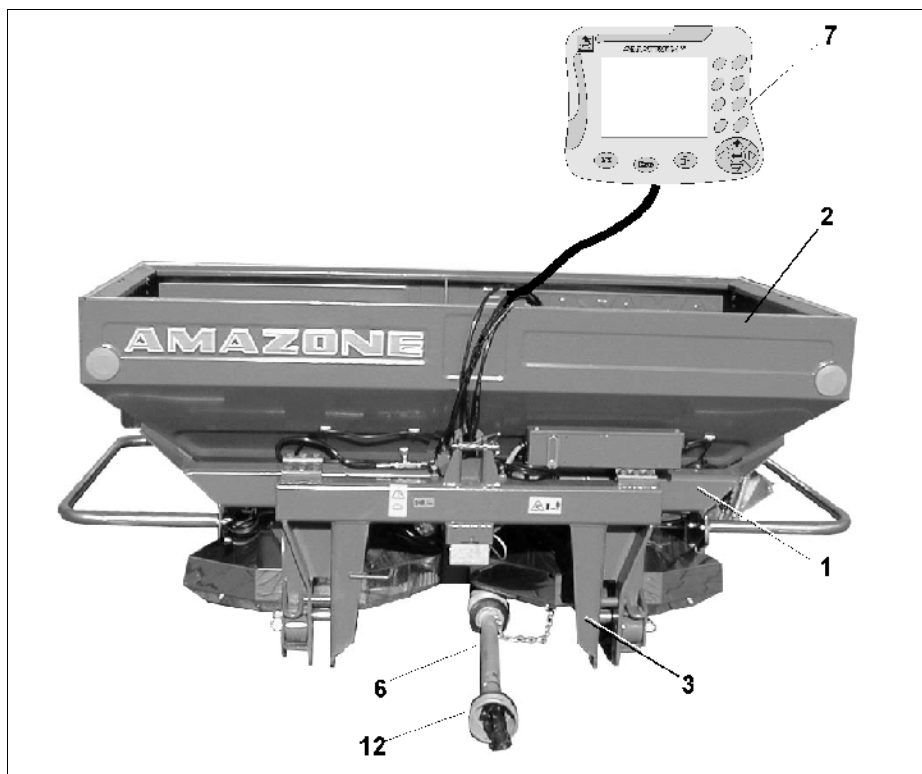

Fig. 3
- Frame (Fig. 3/1)
- Hopper (Fig. 3/2)
- Weighing frame (Fig. 3/3)
- PTO shaft (Fig. 3/6)
- on-board computer Amatron+ (Fig. 3/7)
- PTO shaft guard (Fig. 3/12)